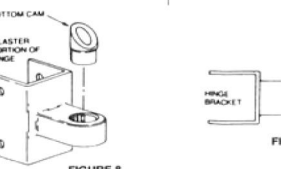

FIGURE 8.
- c. Insert bottom nylon cam into the pilaster portion of the hinge bracket assembly. (see fig 8). The cam should be set to the same desired position on upper and lower hinge assemblies. (see fig 9)